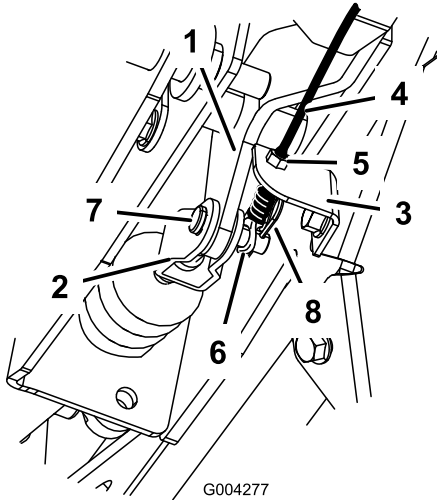

Figure 23
17. Secure the cable, master brake cylinder linkage and brake pedal arm with the longer clevis pin (3/8 x 1-1/8 inch) and cotter pin provided. Bend the cotter pin ends outward to secure the linkage (Figure 23).
18. Move the lock out cable adjustment nuts so that slack in the cable between the brake pedal pin and the bracket is removed. Tighten the adjustment nuts to seat the cable in the bracket (Figure 23).